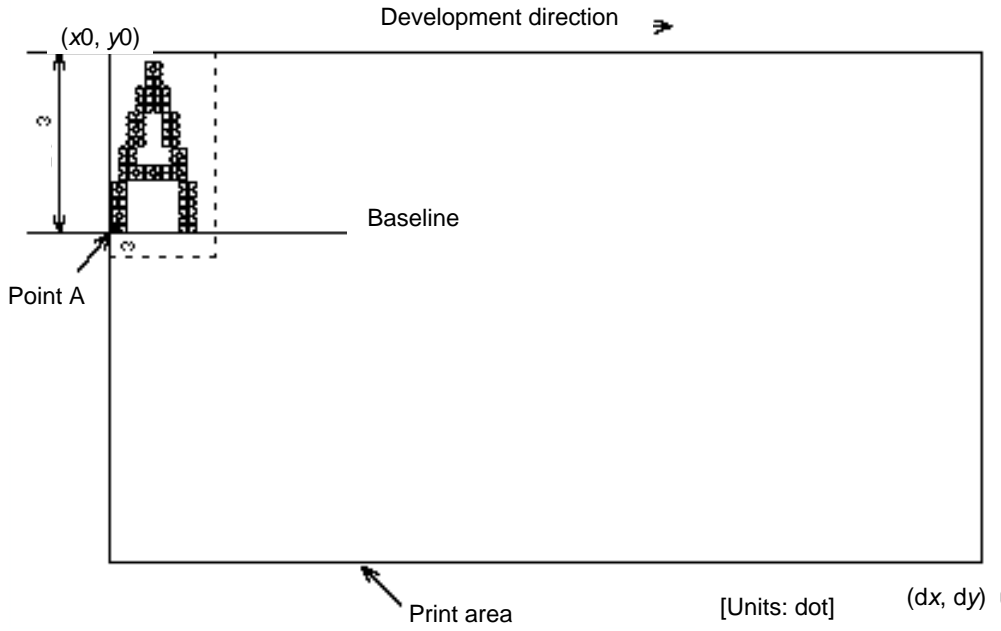

Figure 4.10.2 Character Data Developing Position
- 2) When the printer receives print data after **ESC W** sets the printable area and **ESC T** sets the printing direction, the print data is formatted within the printable area so that point A in Figure 4.10.2 is at the beginning of the printable area as a default value. (When a character is printed, point A is the baseline.)